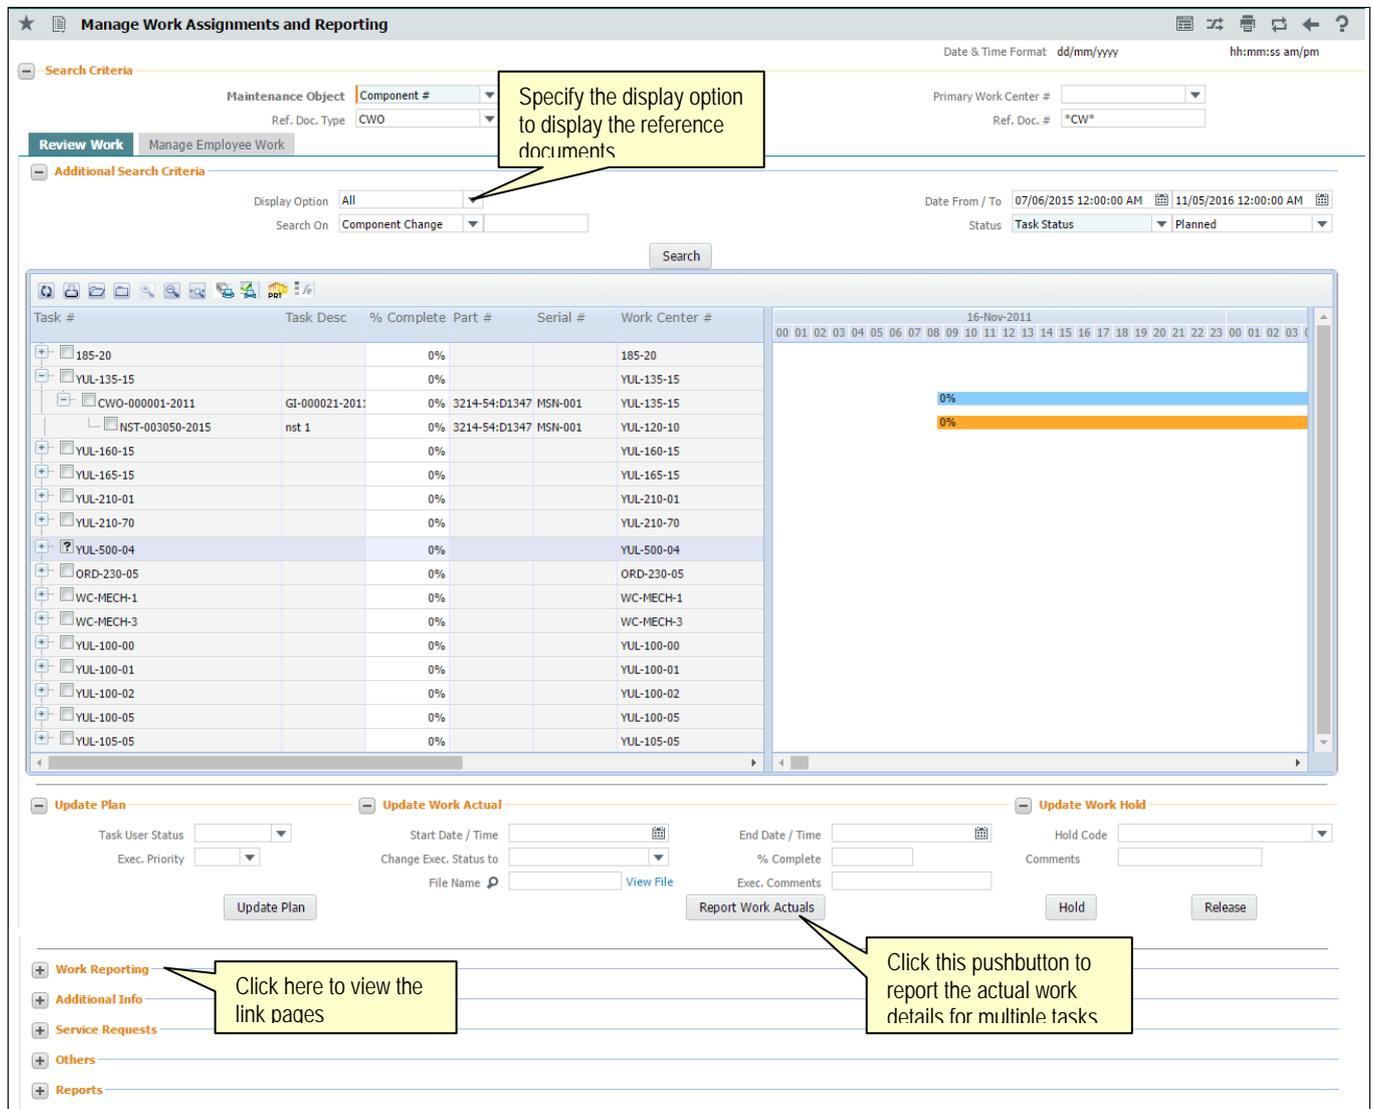

Figure 2.1 Managing work assignments and reporting
1. Select the **Manage Work Assignments and Reporting** link under the **Work Monitoring and Control** business component. The **Manage Work Assignments and Reporting** page appears. *See figure 2.1.*